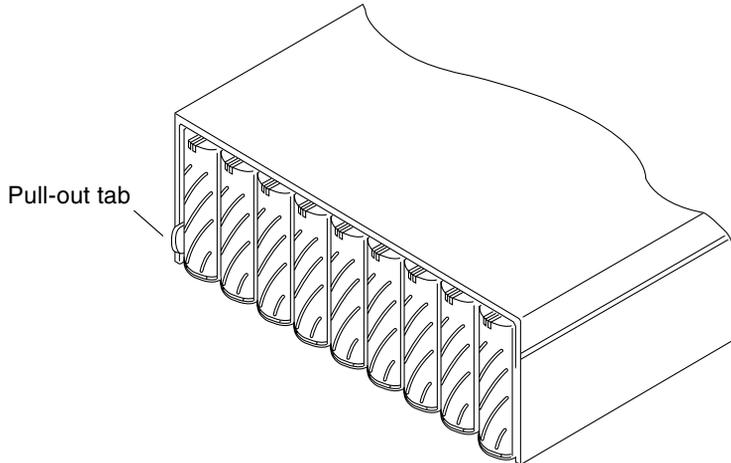

FIGURE 2-2 Serial Number and MAC Address on Pull-out Tab
5. Locate the pull-out tab at the left side of the array next to the first disk drive (FIGURE 2-2).
- **MAC address.** See FIGURE 2-2 for the MAC address location. See Step 1 of the following procedure for the format of the MAC address.